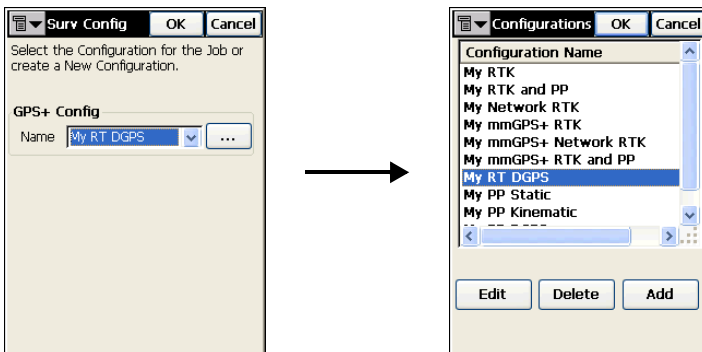

Figure 4-1. Edit Configuration DGPS Configuration
3. Tap **Job** ▶ **Config** ▶ **Survey**, select “My RT DGPS”, and press the **browse (...)** button. Press the **Edit** button (Figure 4-1).